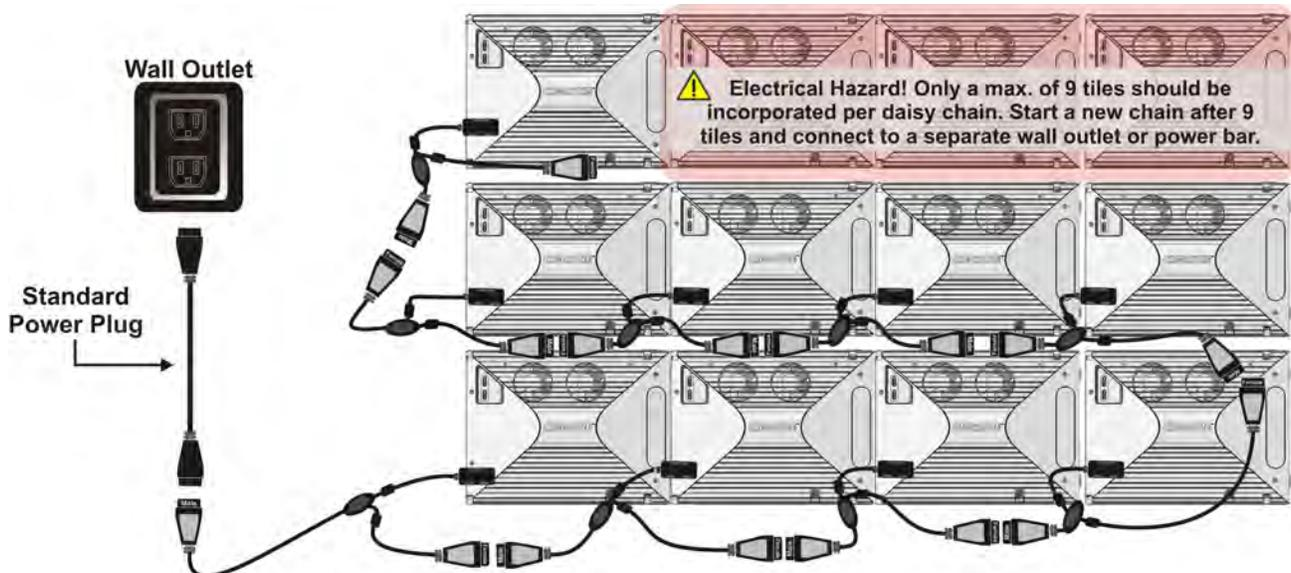

Figure 2-20 Connecting to Power Using Y-power Cords
2. Daisy chain the 'Y' power cords into each tile in the array and connect the standard power plug into an outlet or power bar (Figure 2-20).